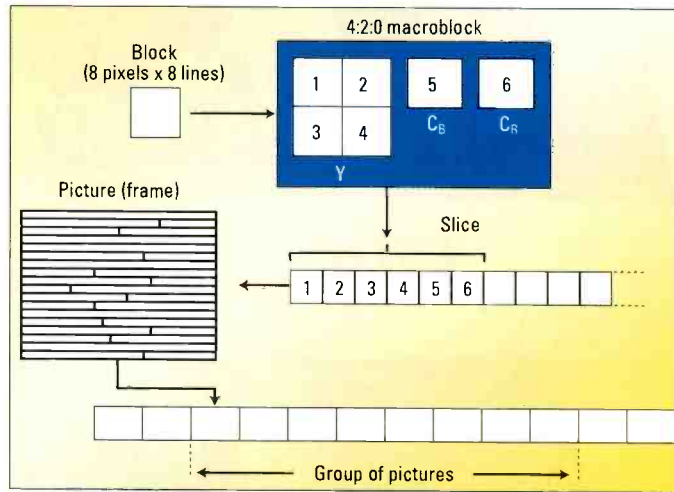

Figure 2. MPEG-2 4:2:0 video data stream architecture
- **Video sequence:** A video sequence includes a sequence header, one or more GOPs and an end-of-sequence code. Figure 2 shows the makeup of a video sequence.